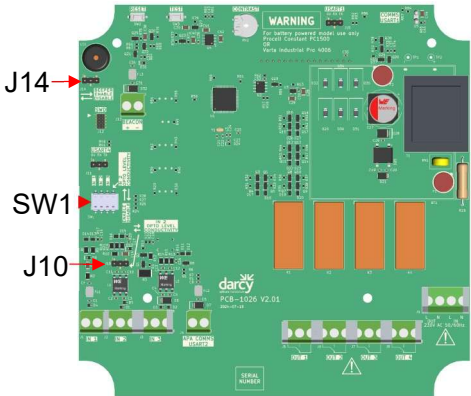

Figure 5: Jumper Link and DIP Switch Settings
8. Set jumper link J10 and SW1, DIP switch 4 according to the probe type being used on probe input IN 2 (J2). See Figure 5.
Refer to Figure 5 for DIP switch settings to enable/disable probes that are in use.